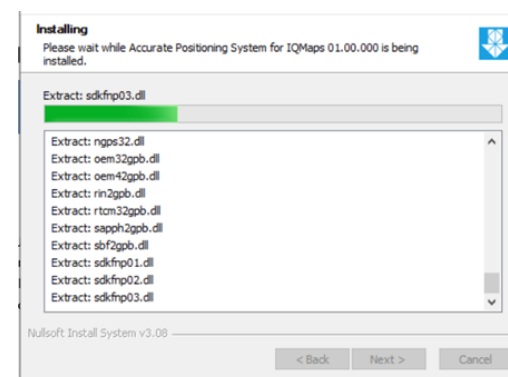

Fig. 20 APS install step 3
4. Wait until installation process is complete and press NEXT (Fig. 20),